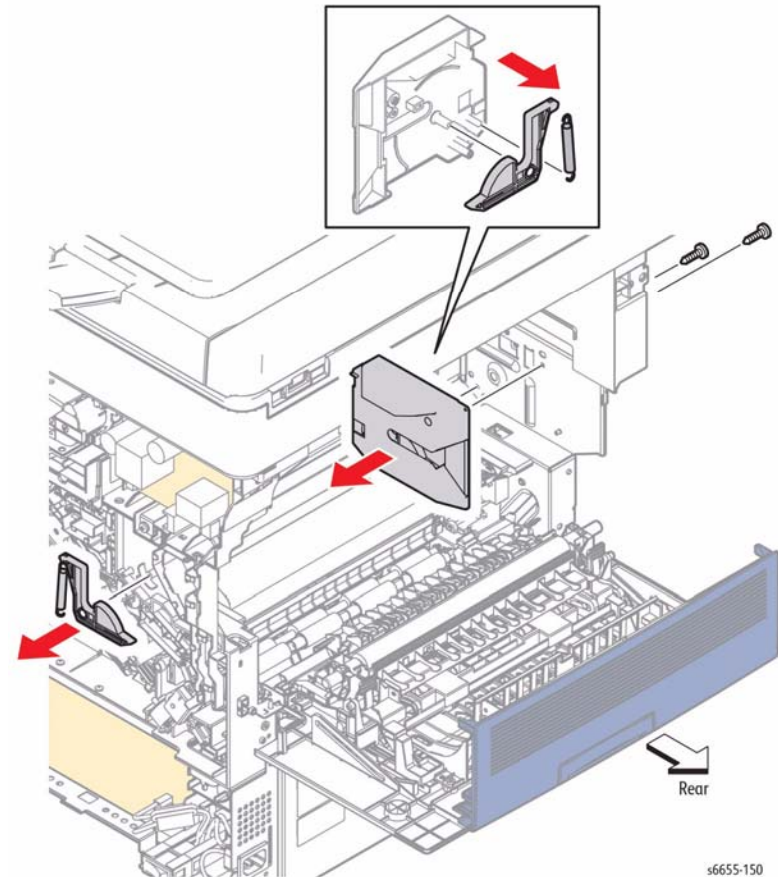

Figure 1 Remove the Right Rear Latch
3. Refer to Figure 1 to locate and remove the Right Latch Spring on the right side of the printer and remove the Right Rear Latch.